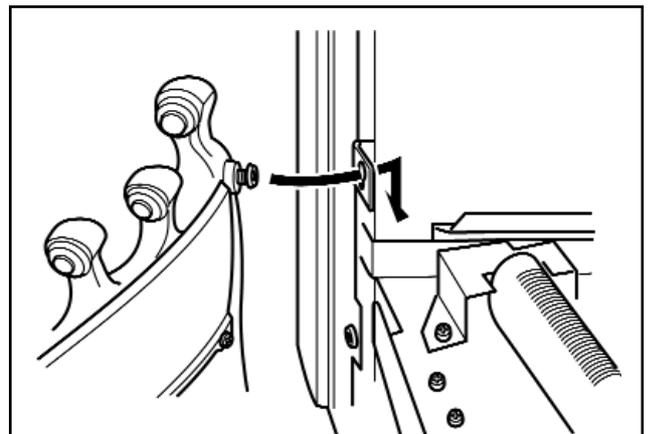

Figure 41. Firefront casting (Casting may differ from that shown).
**14.2.1** Fit the fire front casting to the fascia. Locate the two screw heads at the rear top corners of the firefront casting through the keyhole slots at the inner sides of the fascia. If the screw heads do not project enough or project too far, the screws can be adjusted. Lower the casting so that it rests on the hearth (See figure 41).
**14.5.2** Locate the two screw heads through the keyhole slots at the inner sides of the surround. If the screw heads do not project enough or project too far, the screws can be adjusted. Lower the casting so that it rests on the hearth (See figure 41).